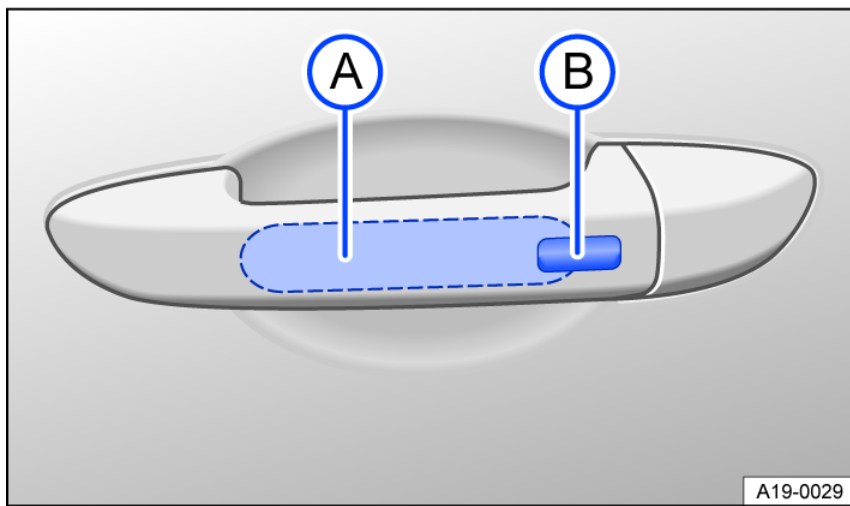

Fig. 55 In door handle: sensors.
- Touch the sensor fig. 55 A on the inside of the door handle.
- Touch the sensor fig. 55 B on the outside of the door handle.
- Then, within 5 seconds of locking the vehicle, touch the sensor on the outside of the door handle once fig. 55 B. Do not grasp the door handle during this process.
- Hold your finger on the driver's or front passenger's door handle sensor fig. 55 B for several seconds until the windows and power sunroof are closed.